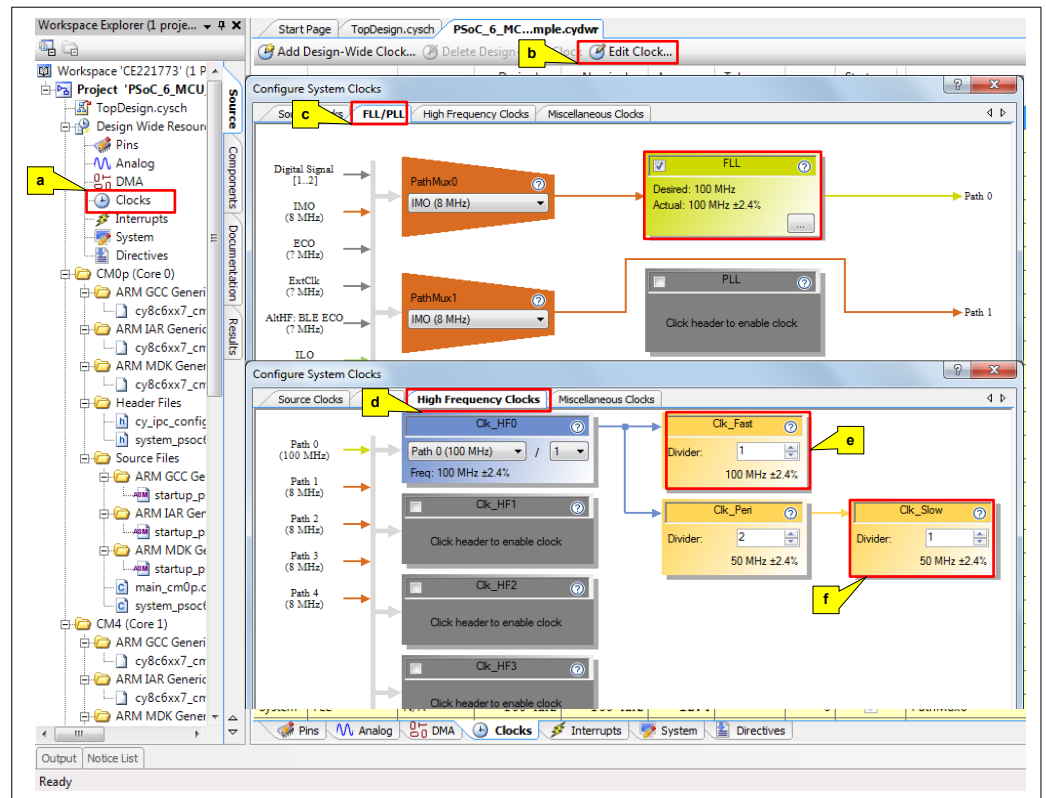

Figure 22 Clock configuration
- You can set the CM0+ CPU clock by setting the divider in **Clk_Slow**. By default, the divider is set to 1. See Figure 22